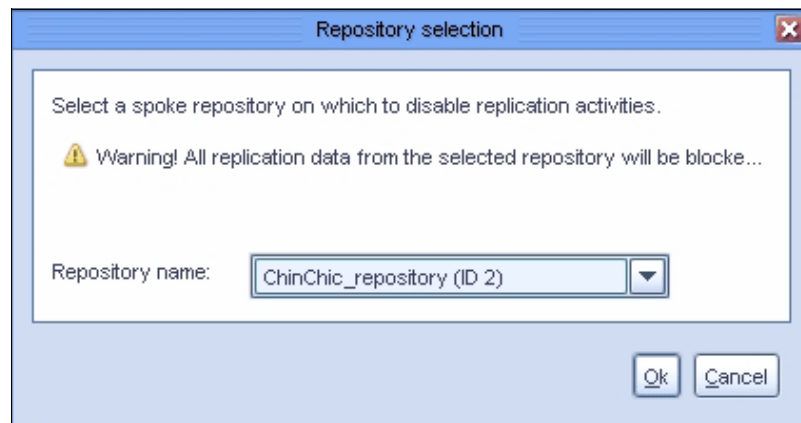

Figure 11-2 DR Repository selection
2. Select **VT** → **Replication Disaster Recovery** → **Enter DR mode**. The source repository selection window is displayed (Figure 11-2).